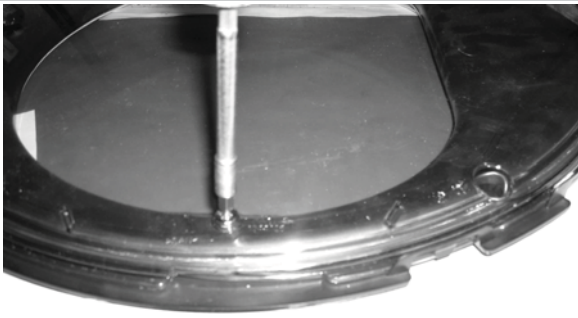

Figure 7
8. Remove lens locating screw. (Figure 7)